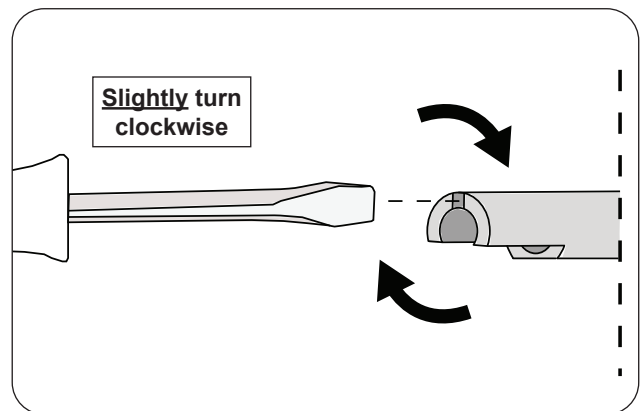

Fig. 44-2 Stem adjustment
2. Insert a flathead screwdriver into the split portion of the stem and GENTLY turn the screwdriver clockwise. Be cautious! Only a slight turn is needed as the stem is flexible. See Fig. 44-2.